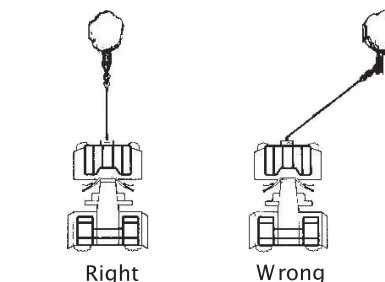

Figure 4
11. AVOID CONTINUOUS PULLS FROM EXTREME ANGLES as this will cause the wire rope to pile up on one end of the drum. This can jam the wire rope in the winch, causing damage to the rope or the winch. (Figure 4)